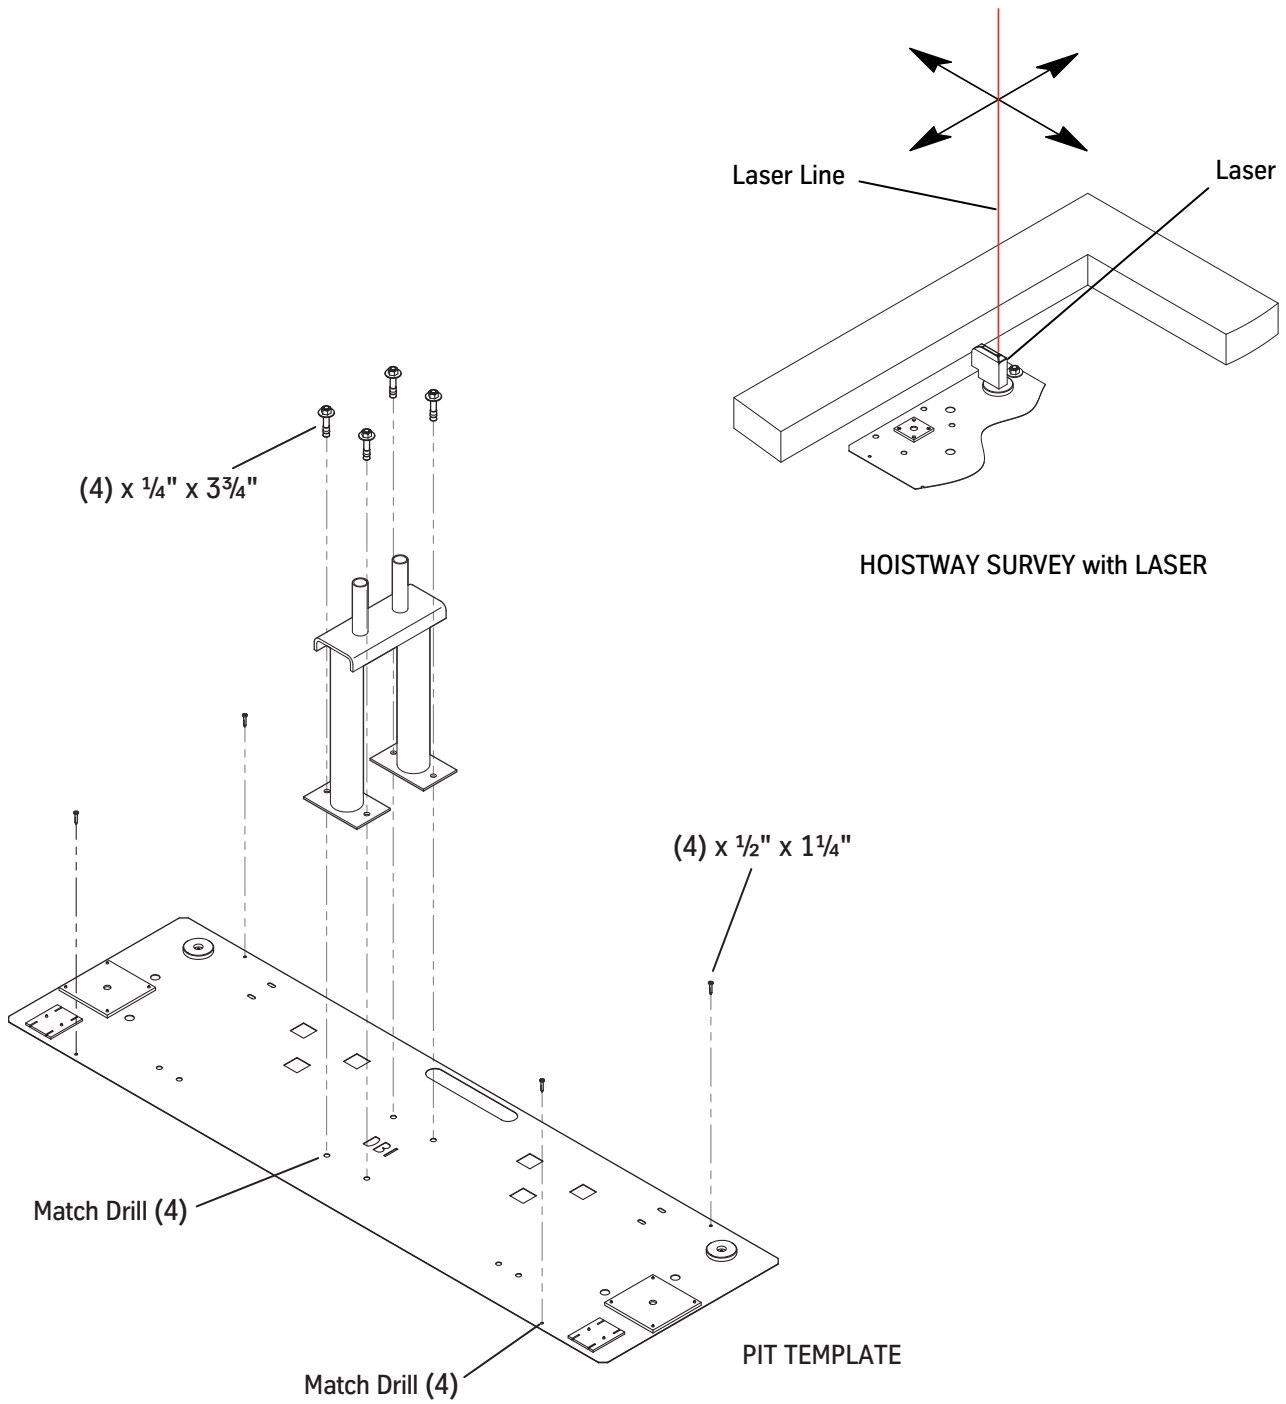

Figure 2 - Pit Template Layout
4. Place a laser on each end of the template, and survey the hoistway. See Figure 2 on page 10.